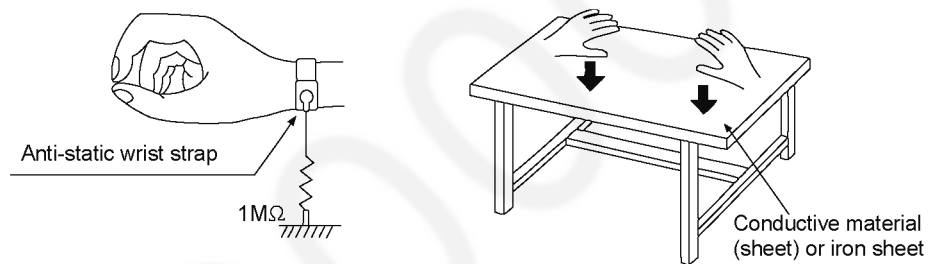

Figure 2-2
- Use the anti-static wrist strap to discharge the static electricity form your body Figure 2-2.